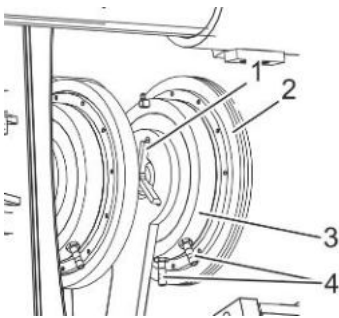

Fig. 30: Current transmission
5. Before starting work, apply contact pressure between current transmission (Fig. 30/3) and welding roller (Fig. 30/2).
6. Adjust the contact pressure by tightening the screw on the pressure star (Fig. 30/1).
7. Check wear of the current transmission (Fig. 30/3).
8. Check the groove in the welding roller (Fig. 30/2).